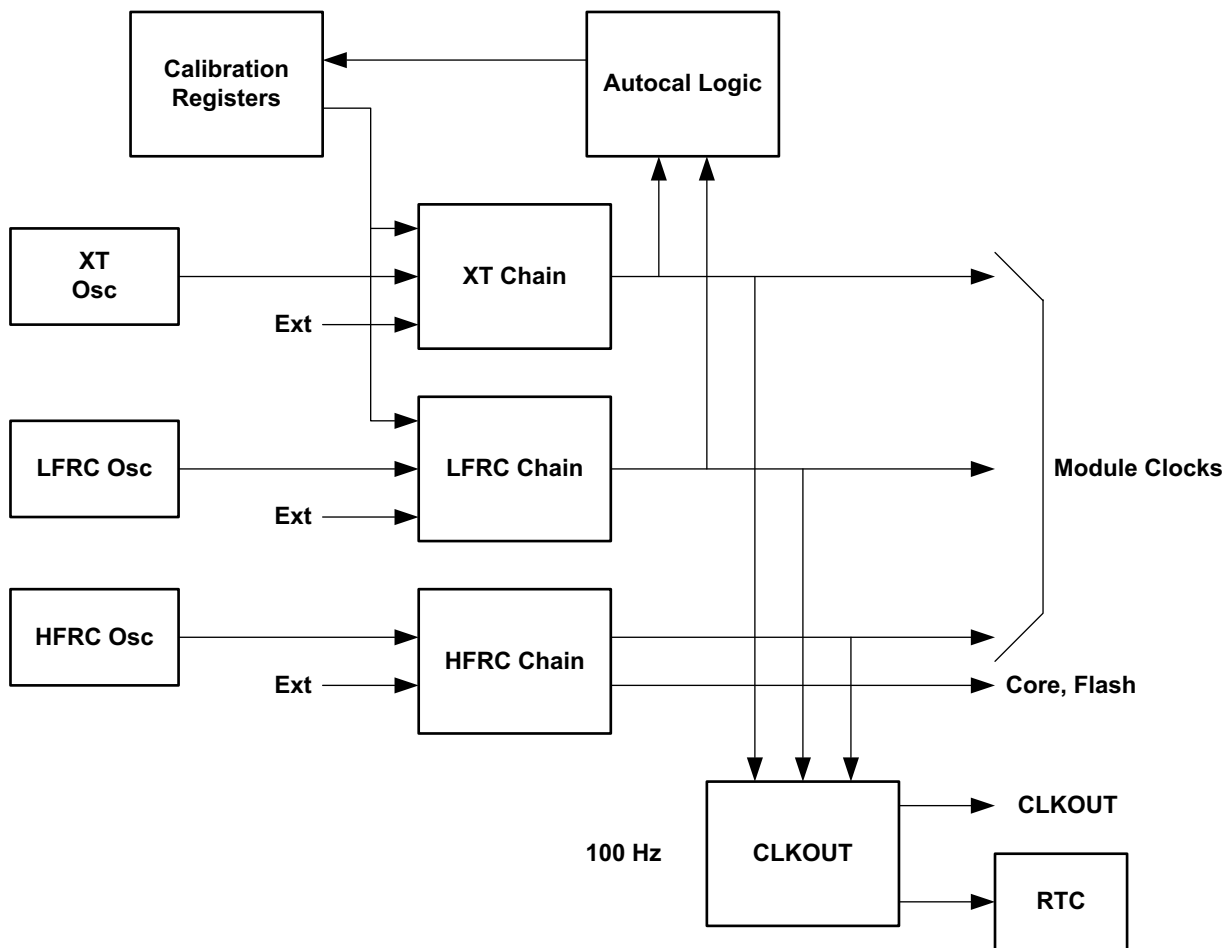

Figure 37. Block diagram for the Clock Generator and Real Time Clock Module
A high-level view of the Clock Generator Module, which supplies all clocks required by the Apollo SoC, is shown in Figure 37. These clocks are derived from one of three internal oscillators: a high precision crystal controlled oscillator (XT), a low power 1 kHz RC oscillator (LFRC) and a high frequency 24 MHz oscillator (HFRC). The output of the XT oscillator may be digitally calibrated to ± 1 ppm (part per million).